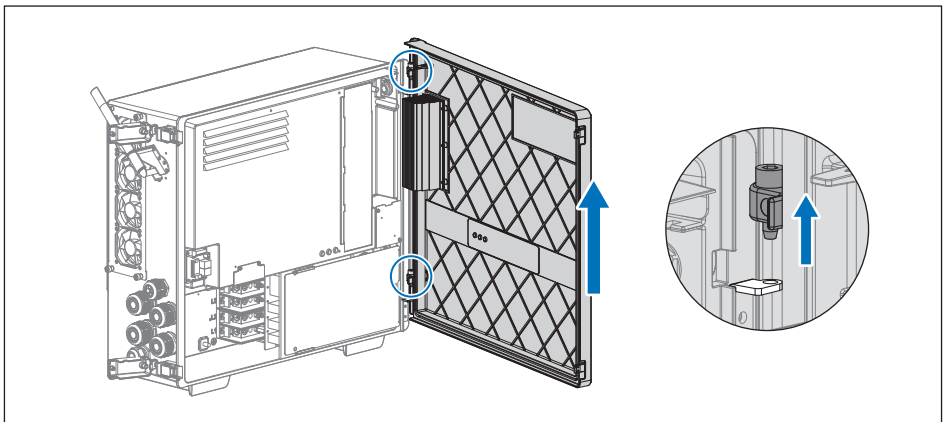

Figure 5-3: Remove the door
4. The inverter door can be removed for wider working space during installation or maintenance (**Figure 5-3**).